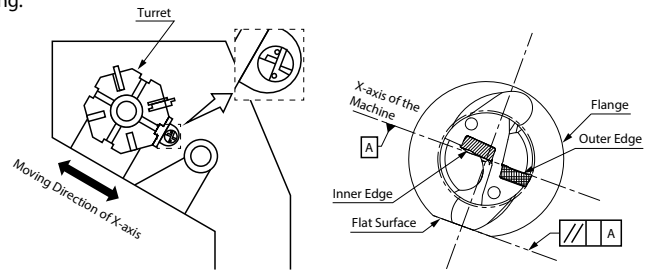
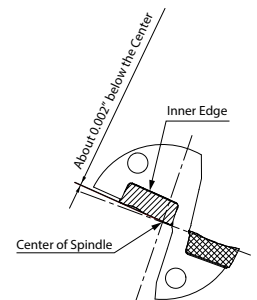

Fig.1 Installed into the Lathe
Fig.5 Front View of the Drill
1. Align the scale at the flange periphery of the sleeve to the center of the coolant plug of the drill. (Fig.1)
2. It is recommended to set the outer insert as shown in Fig.1 with the outer insert facing the operator. (Fig.1)
- When installing inner insert as shown in Fig.1, it will be set around 0.05mm (0.002") below the Center of Spindle. (Fig.5)